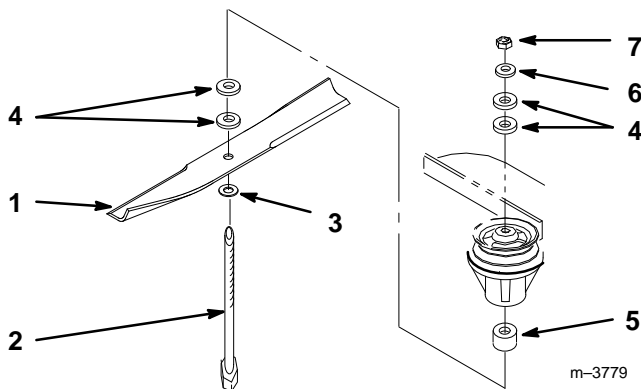

Figure 31
Hold the blade bolt with a wrench. Remove the nut, blade bolt, cone washer, blade, spacers and thin washer from the spindle (Fig. 31).
1. Place the blade onto the bolt, over cone washer. Select proper number of spacer(s) for height-of-cut and slide bolt into spindle (Fig. 31).
2. Install remaining spacer(s) and secure with thin washer and nut (Fig. 31).